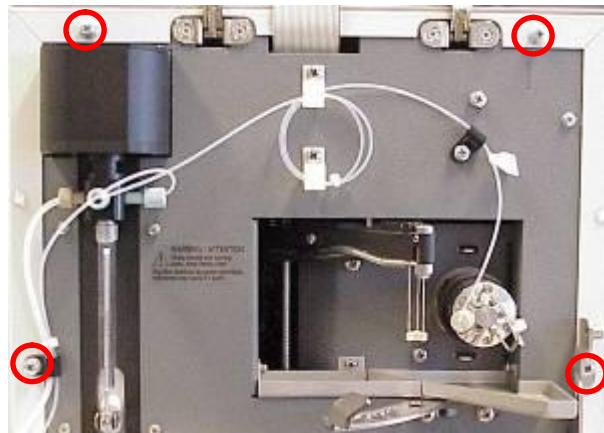

Fig. 3 Frontview from the PS410
2. Remove the 4 Philips screws from top cover as marked in fig. 3